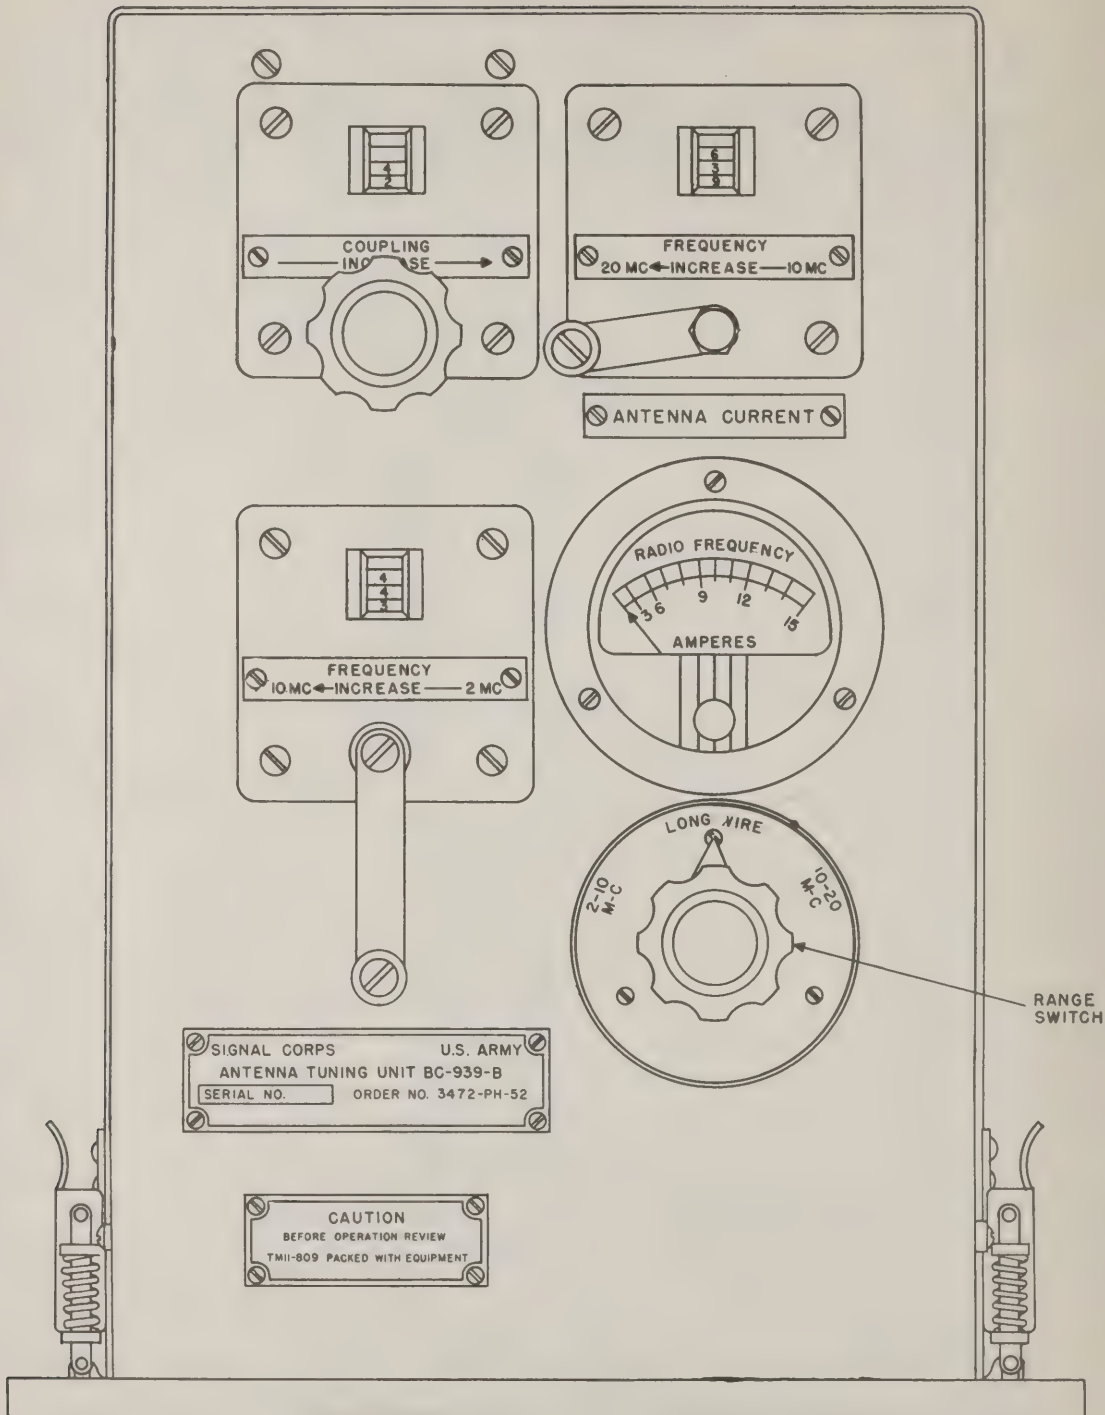

Figure 7. Antenna tuning unit front panel.
13. Antenna Tuning Unit (fig. 7)